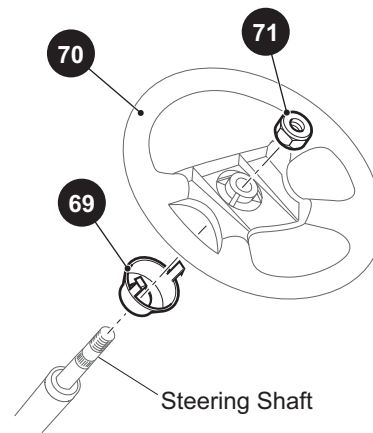

Figure 21 Steering Wheel Replacement
3. Loosen the steering wheel retaining nut (68) two to three turns until the threads on the steering column shaft are protected (Ref. Figure 21).
5. When the steering wheel is loose, remove the retaining nut (71) and remove the steering wheel (90).
6. Prior to replacement, assemble the replacement steering wheel by aligning the retaining tabs on the rear collar hub (69) with the slots in the back of the steering wheel (Ref. Figure 21).
10. Tighten the steering wheel nut (71) to the torque values below.
11. Inspect the four retaining tabs on the clipboard (95) for white stress lines. If stress lines are present, replace the clipboard with a new one.